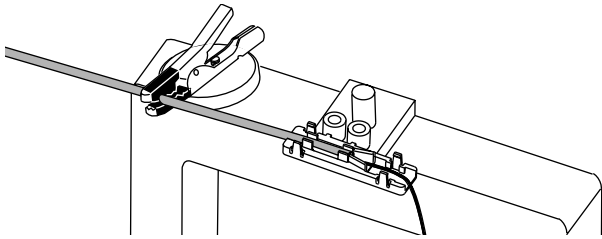

Figure 11
**6.8** Position the buffer tube so that its end is within the crimp tabs of the BTF bottom (Figure 11).